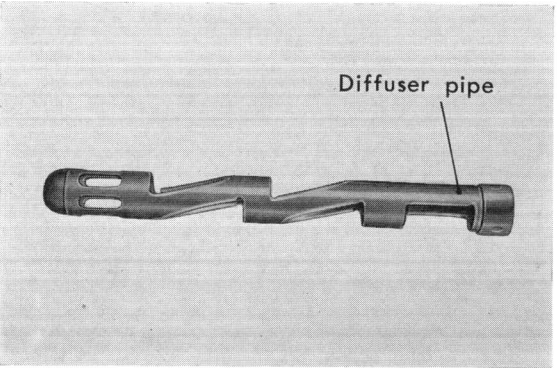

Figure 6-40. Cleaning diffuser pipe
- b. Tap the pipe lightly to remove the carbon and then wash in solvent or gasoline (Fig. 6-40) The clogging of the diffuser pipe will cause a drop in the engine power output. A loose connection at the gasket joint will produce undesirable noise from leaking exhaust gas.